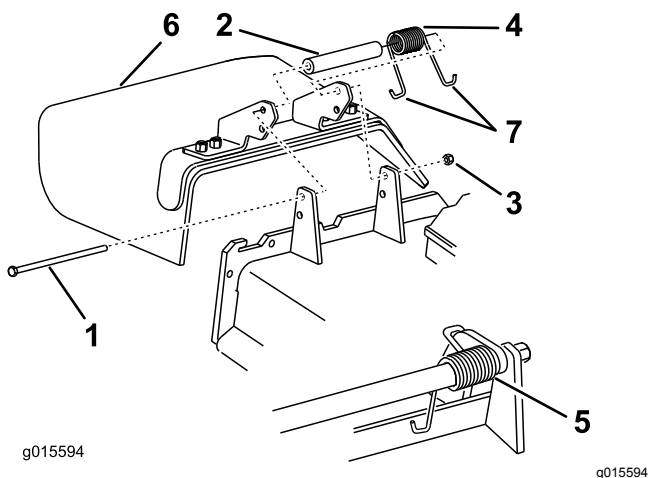

Figure 94
1. Remove the locknut, bolt, spring, and spacer holding the deflector to the pivot brackets (Figure 94).
Note: Make sure that 1 J-hook end of spring is installed behind deck edge before installing the bolt as shown in Figure 94.
6. Place 1 J-hook end of the spring around the grass deflector (Figure 94).